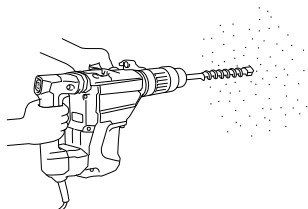

Fig. 10
- How to drill holes (Fig. 10)